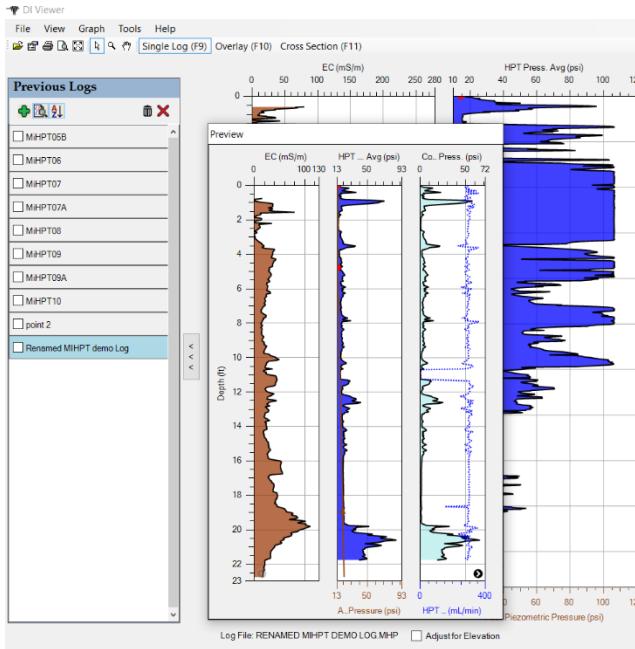

Figure 5: Log Preview
6. Log Preview: Select the magnifying glass which Turns on (or off) the log preview screen then mouse over the log name in the Previous Log section. This will pop up a preview (Fig. 5) of the first 3 graphs displayed in single log view.